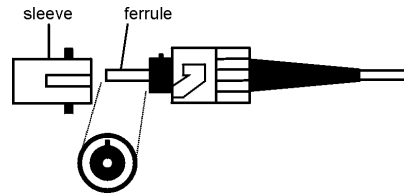

Figure 4: Connector Cleaning (connector type can vary)
1. Blow the sleeve with filtered compressed air (Figure 4).